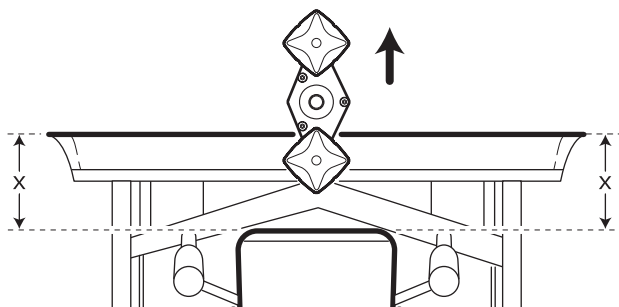

Figure 6-7. Square Blade with Yellow Antenna Arrow Forward
1. Square the blade to the machine (Figure 6-7)—for motorgraders, rotate the blade to the chisel marks.